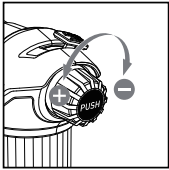

Fig.6
- The flame length can be adjusted by rotating the **Gas Control / Ignition Button**. (Fig.6)